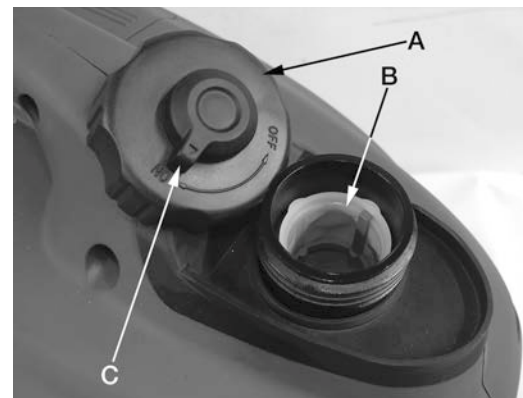

Figure 2
- 1) If it is necessary to add fuel, first make sure the engine is OFF and preferably cool, then open and remove the fuel cap (A) Fig.2 by turning counterclockwise.
- 2) Make sure the fuel filter cup (B) is positioned inside the tank opening before refueling.
- 4) **IMPORTANT: Before operating generator, turn the fuel cap lever (C) Fig.2 to the "On" position to allow gas vapors to escape, preventing fuel vapor build-up in the gas tank. Once you have finished using the generator, turn the fuel cap lever to the "Off" position.**